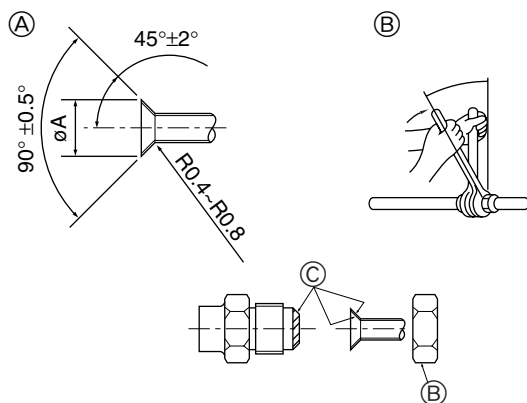

Fig. 4-1
4.1. Connecting pipes (Fig. 4-1)
- ① Flare cutting dimensions